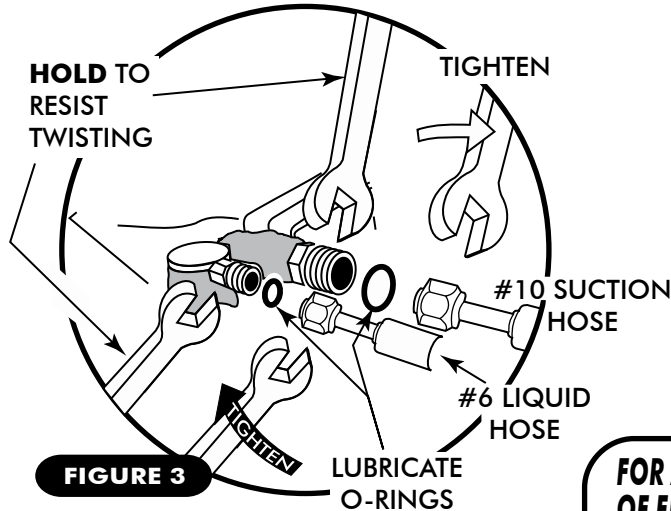

FIGURE 3
19. AFTER CRIMPING HOSES, LOCATE THE #6 A/C HOSE WITH THE STRAIGHT FITTING. LUBRICATE A #6 A/C O-RING AND THE THREADS ON THE FITTING, AND INSTALL ON THE EXPANSION VALVE. TIGHTEN CAREFULLY. REFER TO FIGURES 3 & 3A, PAGE 9.
20. LOCATE THE #10 A/C HOSE WITH THE STRAIGHT FITTING. LUBRICATE A #10 O-RING AND THE THREADS ON THE FITTING, AND INSTALL ON THE #10 LINE OF THE EVAPORATOR. TIGHTEN CAREFULLY. REFER TO FIGURES 3 & 3A, PAGE 9.
21. WRAP THE #10 FITTING WITH PRESS TAPE, AND COVER ALL EXPOSED METAL SURFACES. (DO NOT WRAP THE #6 HOSE, FITTING, OR THE HEATER CORE TUBES). SEE FIGURE 3, PAGE 9.